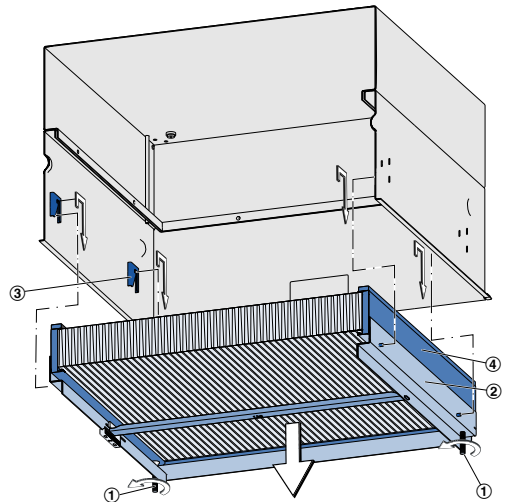

Fig. 12: Filter change
- ▶ Remove the clamping frame. To do so, loosen the four clamping screws (Fig. 12/1) (hexagon socket size 4). Lift the clamping mechanism (Fig. 12/2) out of the brackets (Fig. 12/3). Then remove it downwards.
- ▶ Remove the dust-laden filter (Fig. 12/4) from the clamping frame, and put it into a plastic bag and dispose of it properly; see 'Disposal' on page 14.